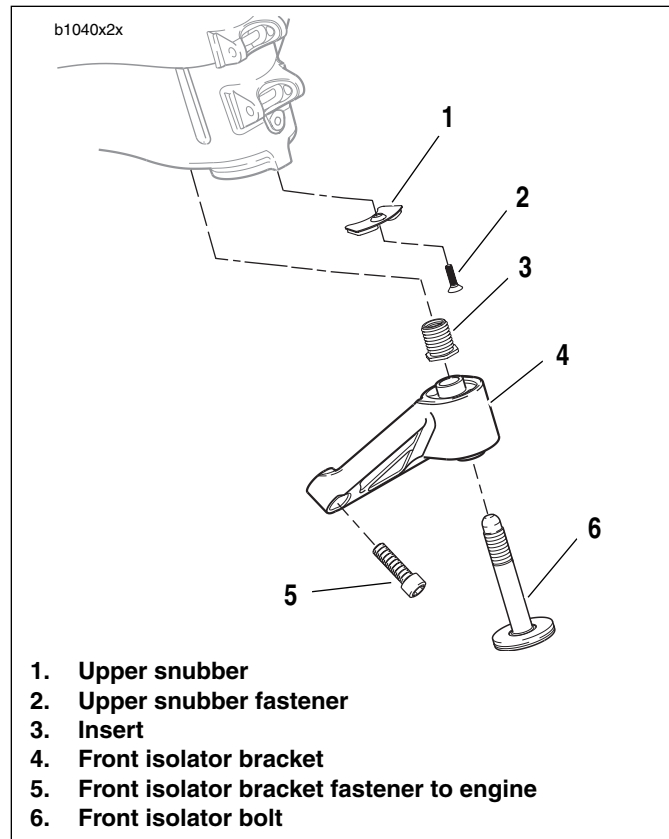

Figure 2-87. Front Isolator
3. See Figure 2-87. Remove front isolator bolt (6).
4. Remove front isolator mount fasteners (5).
5. Remove front isolator bracket (4).
6. Remove upper snubber fastener (2) and remove upper snubber (1).
1. See Figure 2-87. Install upper snubber (1) tightening snubber fastener (2) to 12-36 **in-lbs** (1-4 Nm).
3. See Figure 2-87. Mount front isolator bracket (4) and install and tighten fasteners (5) to 49-51 ft-lbs (66-69 Nm).
See Figure 2-87. If the threaded insert (3) is damaged and needs to be replaced, install new insert with LOCTITE 272 and tighten to 59-61 ft-Lbs (80-82.7 Nm).